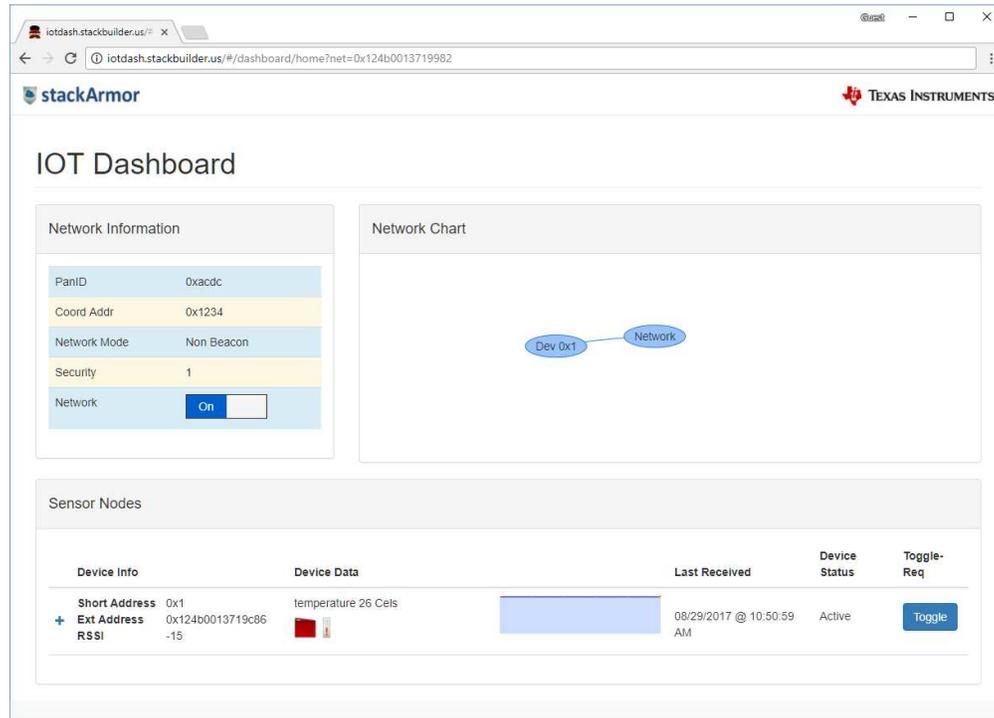

Figure 10. Internet-of-Things (IoT) Dashboard
- You will automatically be redirected to the AWS IoT Dashboard through stackArmor, as shown in Figure 10.
- Power-on the sensor, if this is not already done. The sensor automatically joins the network and appears in the **Network Chart** and **Sensor Nodes** table, as shown in Figure 10.